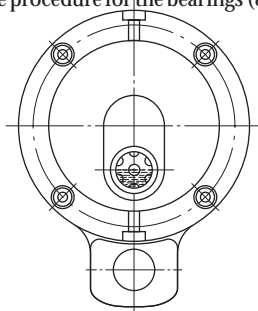

Figure 1 / Figura 1
- a) For backstops design 255, the screw (12) located on the top of the lid (2) should be removed and the lubricating oil should be poured until the oil level reaches the half of the oil level glass (16) (see figure1).